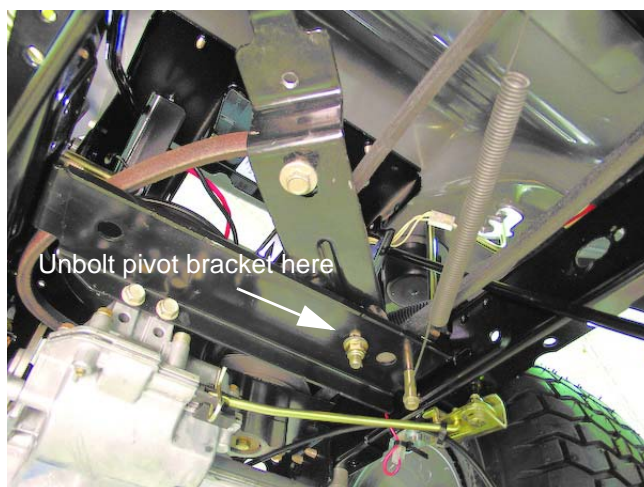

Figure 5.32
2. Unbolt the arm from the torque bracket using a 9/16" wrench on the top and a 9/16th deep socket on the bottom. See Figure 5.32.